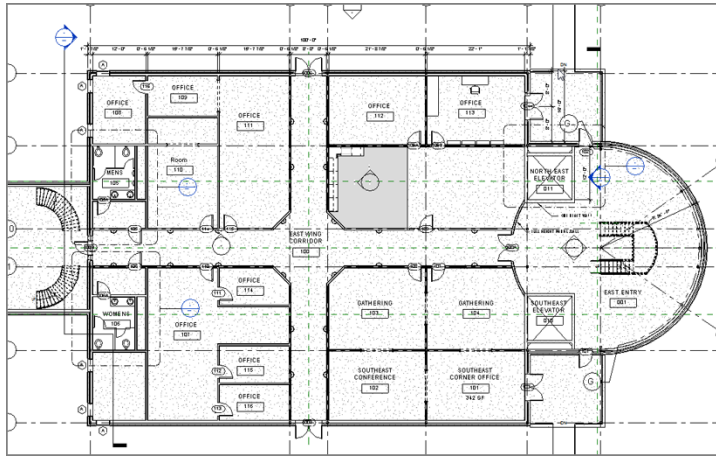

FIGURE 15.6: Adding rooms to the remainder of the spaces
6. Add rooms to the rest of the vacant areas, renaming them all **OFFICE**. (Skip the kitchen area and the room to the right of it, as shown in Figure 15.6.)